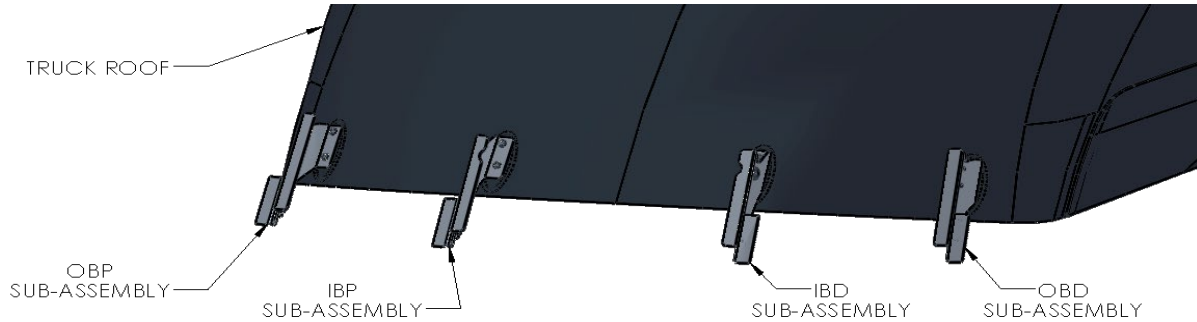

FIGURE 7 – Brackets mounted to truck, shown from front view
2. Mount the inner and outer bracket assemblies (IBD/IBP & OBD/OBP) using the OE M8 bolts. Don't fully tighten. (FIGURE 7)